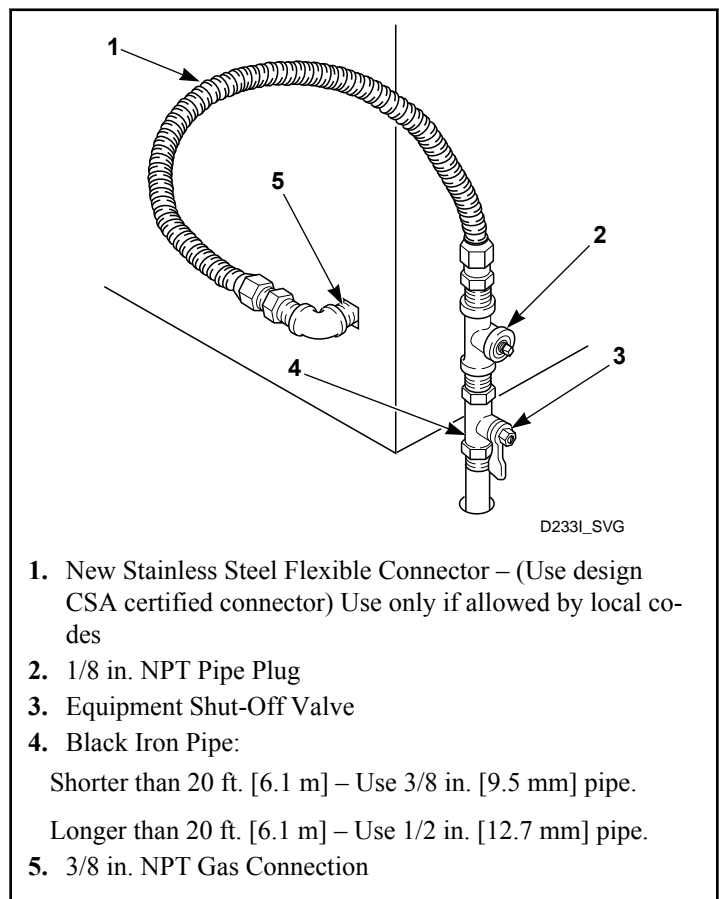

Figure 5
**NOTE: When connecting to a gas line, an equipment shut-off valve must be installed within 6 feet [1.8 m] of the dryer. An 1/8 in. NPT pipe plug must be installed as shown for checking inlet pressure. Refer to *Figure 5*.**